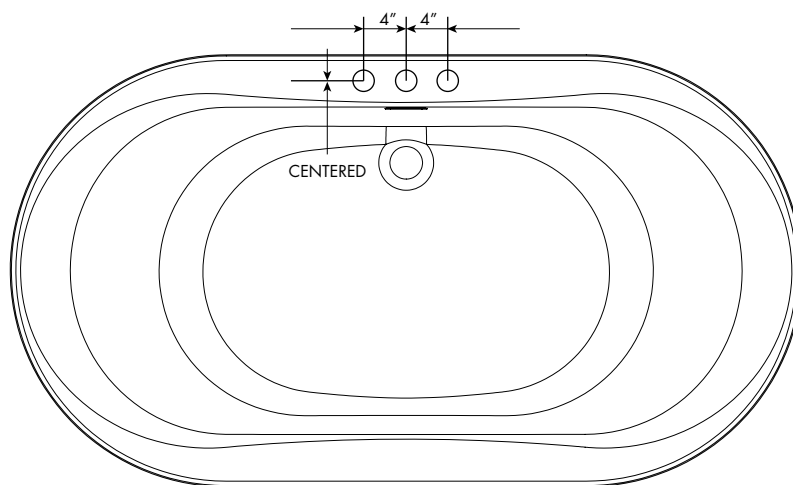

Figure 6
3. Aquatic recommends tub deck fill spouts be mounted above the drain (See Figure 6). Refer to Technical Data Sheets located at: www.aquaticbath.com to ensure there is ample room on the tub deck for the faucet hardware. If hardware is being mounted outside of the recommended area, check the underside of tub rim for obstructions. Install faucets according to the faucet manufacturer's instructions. Verify all pipe connections to ensure no leakage occurs.
8. Drill tub for hot and cold knobs and fill spout placement. If hardware is being mounted outside the recommended area, check the underside of the tub rim for obstructions. (See Figure 6 on Page 9 for recommended mounting locations)